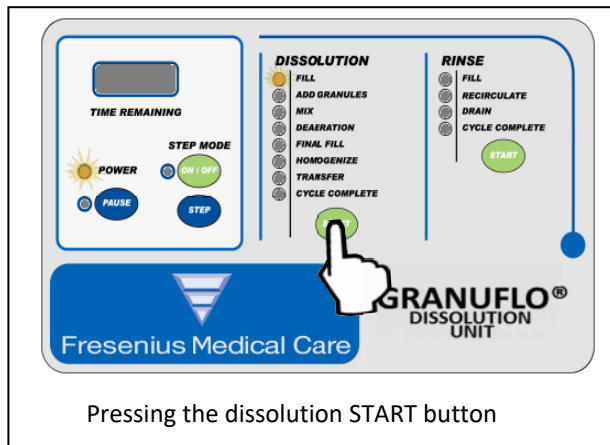

Figure 5
2. Ensure the power switch is ON and Water Supply Valve is in the OPEN position, then place GranuFlo Dissolution Unit II in Dissolution FILL Operation by pressing the Dissolution START button (Figure 5).